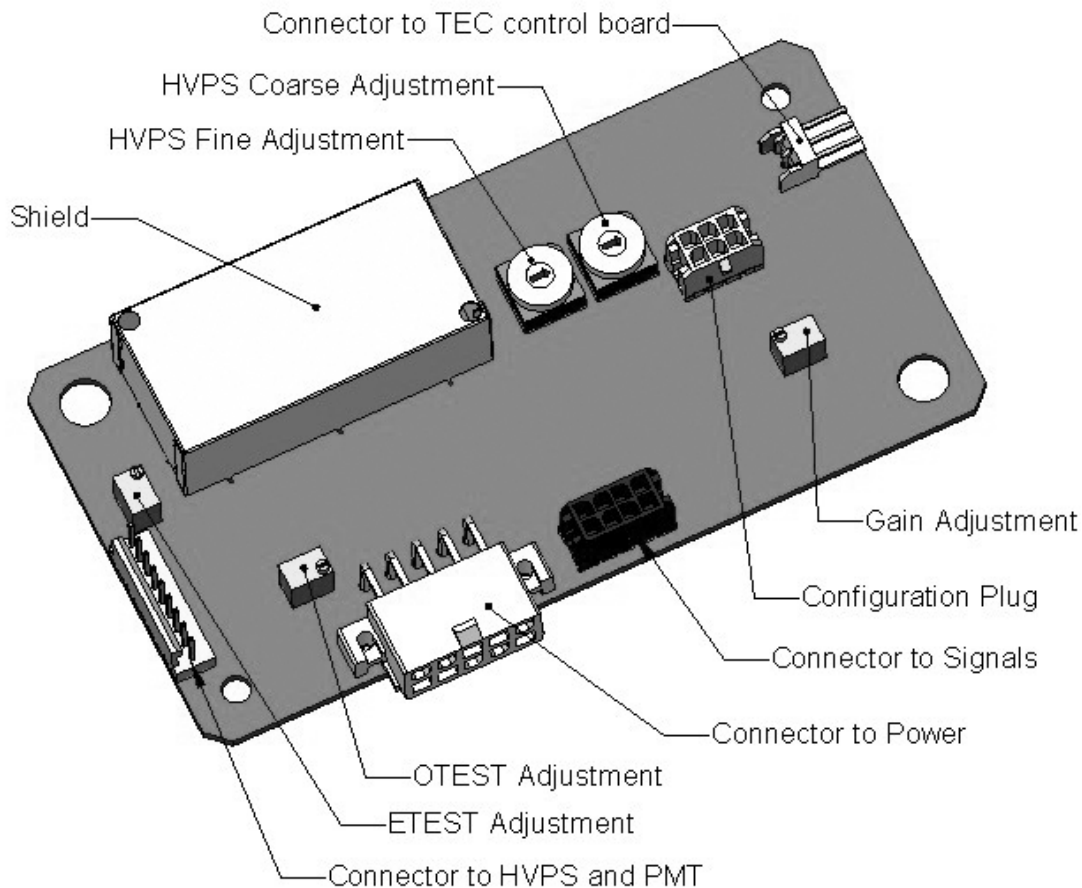

Figure 11-4. Pre-Amplifier Board Layout
7. Locate the following components on the Preamp board (see Figure 11-4):